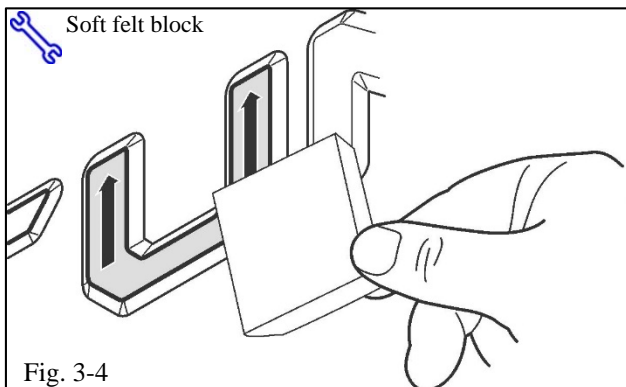

Fig. 3-4
- ⚠ (e) Use a soft felt block to press firmly on the letter U from the bottom edge working upward to the top of the letter, to ensure maximum adhesion contact (Fig. 3-4).